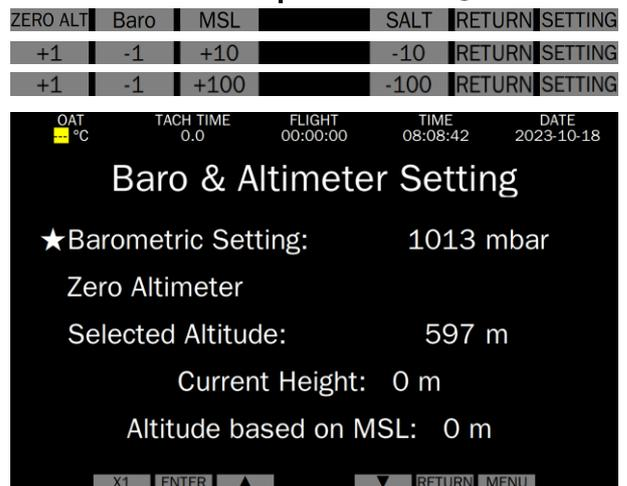

Fig. 5 Select setting item
- 2) Press **▲** or **▼** button, move the ★ pointer up or down to select the item to be set in the menu, as shown in Fig. 5.